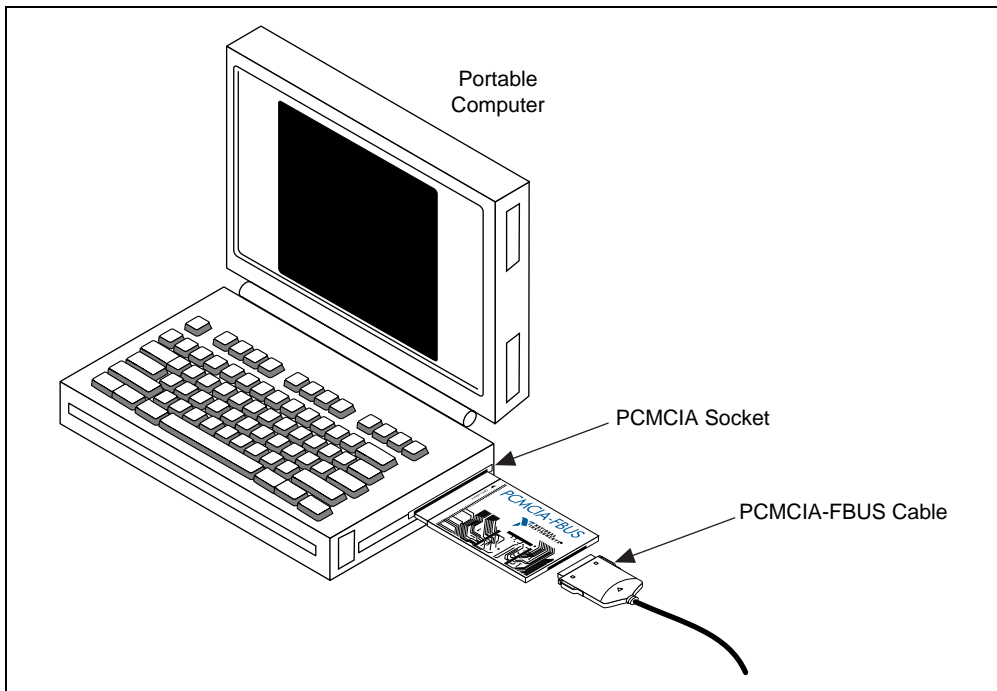

Figure 2-1. Inserting the PCMCIA-FBUS
2. Insert the card into a free PC Card (PCMCIA) socket. The card has no jumpers or switches to set. Figure 2-1 shows how to insert the PCMCIA-FBUS and how to connect the PCMCIA-FBUS cable to the PCMCIA-FBUS card.